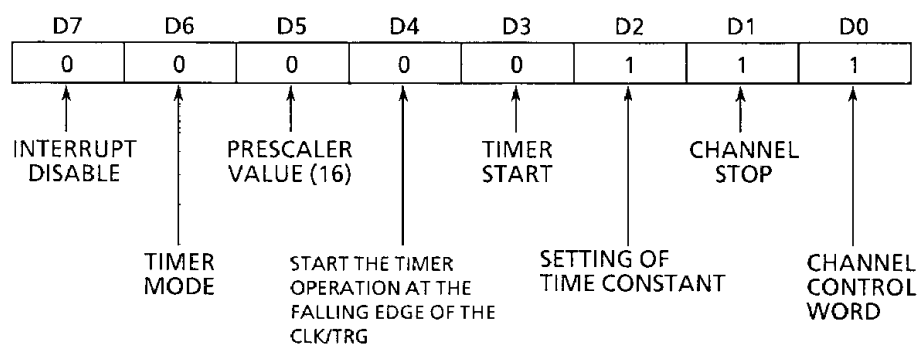

Figure 3.18 Channel Control Word
- (c) The channel control word is shown in Figure 3.18.